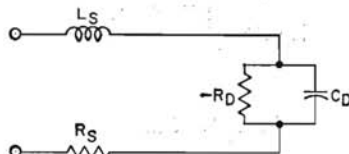

Figure 109. Equivalent circuit for a tunnel diode biased in the negative-resistance region.
Fig. 109 shows the form of the equivalent circuit when the diode is
The figure of merit  $F$  of a tunnel diode is equal to the reciprocal of  $2\pi RC$ , where  $R$  and  $C$  are the equivalent values  $-R_D$  and  $C_D$ , respectively, shown in Fig. 109. This expression has two very useful interpretations: (1) it is the diode gain-bandwidth product for circuits operating in the linear negative-resistance region of the characteristic, and (2) its reciprocal is the diode switching time when the device is used as a logic element.